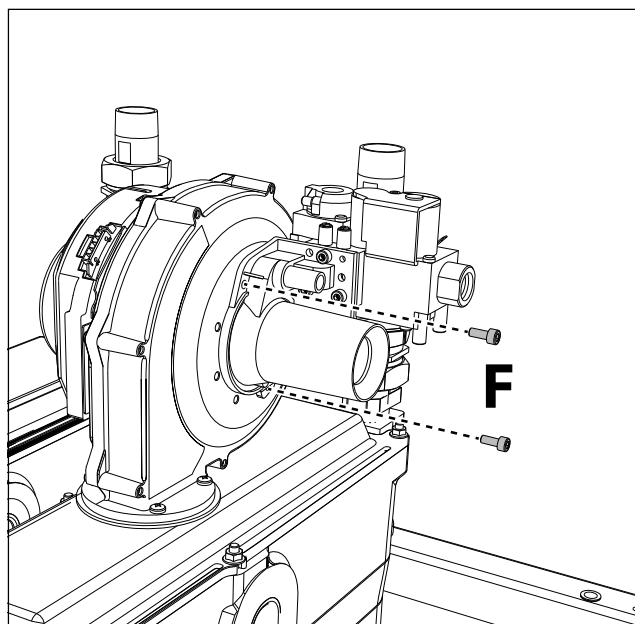
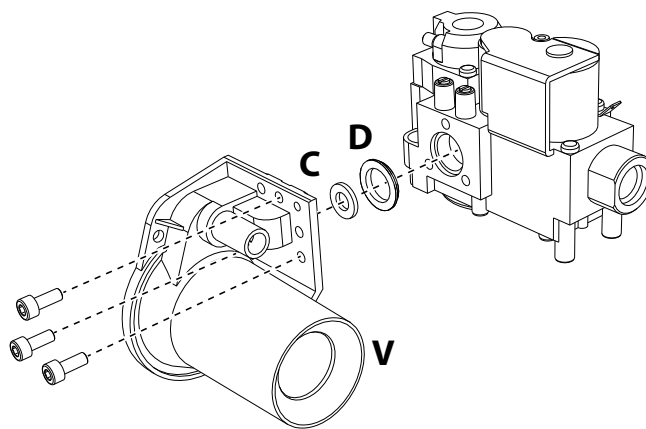

fig. 81
fig. 82
6. Remove the "Venturi Group" from the fan by undoing the two screws "F" (fig. 81).
7. Remove the Venturi "V" by undoing the 3 screws (see fig. 82).
Replace the gas nozzle "C", positioning it inside the gasket "D", with that contained in the conversion kit (see fig. 82). Reassemble the "Venturi Group" and secure it to the fan (see fig. 82 and fig. 81).